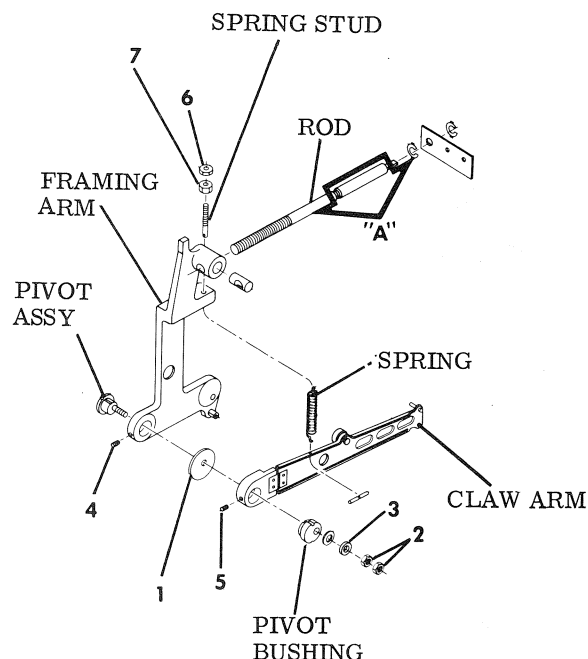

Figure 3-41C. CLAW ARM
b. Side Clearance - Side clearance is measured by inserting a short length of 0.042" rod between claw pins and edge of aperture plate. The claw pins should just touch rod but should not bind against it when claw arm assembly is rotated through one complete cycle. Do not force claw during adjustment as this may result in breakage of claw pins. To adjust side clearance, turn pivot assembly (Figure 3-41C) using Shuttle Cam Adjusting Tool ST-5884 (Figure 3-4). Always tighten setscrew before rotating inching knob.
To adjust pull-down stroke, loosen setscrews (4 & 5, Fig. 3-41C), and while holding pivot assembly with Shuttle Cam Adjusting Tool, rotate pivot bushing and pivot assembly simultaneously, by hand. When facing projector front, a good starting point is seen when the pivot of the pivot assembly is in the 7 o'clock
d. Claw Pivot End Play - Adjust gap between washer and framing arm at pivot joint for maximum clearance of 0.002" by tightening machine nuts (2, Fig. 3-41C). (This is equivalent to 0.001" end play when claw has complete freedom.)
e. Claw Arm Spring (Figure 3-41C) - Tension of the claw arm spring has been factory adjusted and should not normally require adjustment. Correct tension on the claw arm spring is maintained by proper positioning of nut (6) on spring stud. Nut (7) and nut (6) are locked against each other and nut (6) must be flush with end of spring stud.